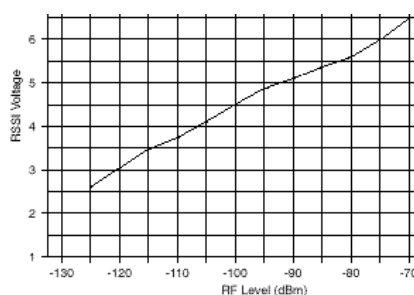

Figure 27 - T835, RSSI Curve: Volt to dBm
- Vary the RF level and check the RSSI output voltage (Figure 27):